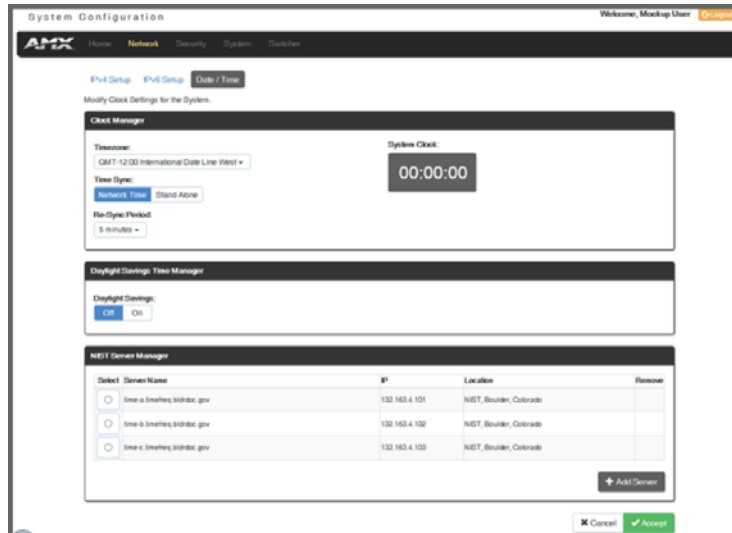

FIG. 137 System Configuration interface - Network → Date / Time
2. From the *Network* drop-down menu, select **Date / Time** (FIG. 137):